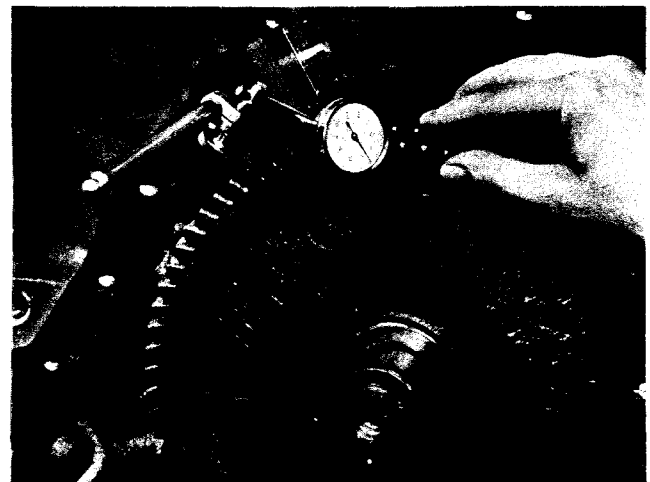

Fig. 14-19, (N114256). Checking gear backlash
5. Attach dial indicator gauge to block (Fig. 14-19), check the camshaft to crankshaft gear backlash. Rotate gear as far as it will move; zero the gauge. Rotate gear in opposite direction and read dial.